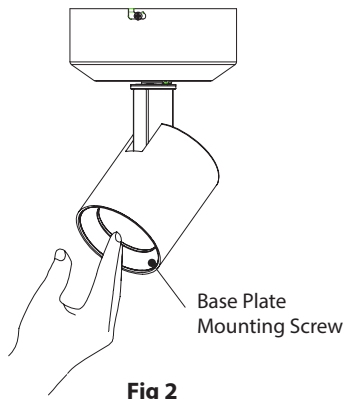

Fig 2
Step 1: Gently move front cap forward to remove it. One torsion spring will remain engaged while other will slide out completely. (See Fig 2)